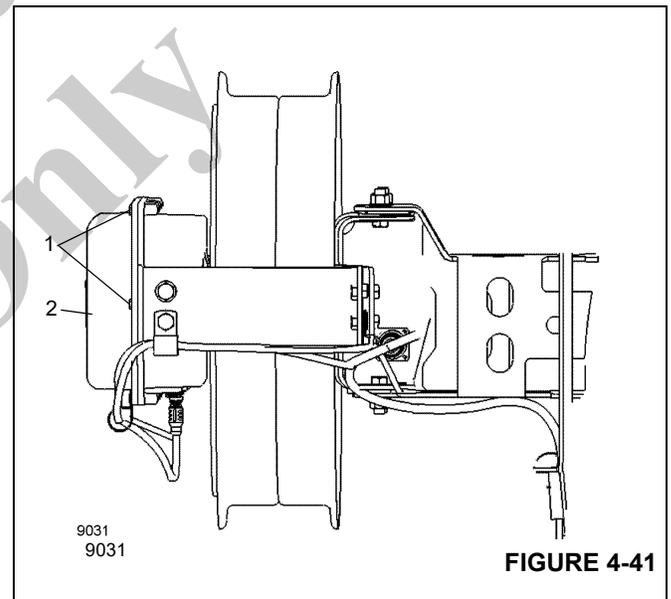

FIGURE 4-41
- Unscrew all screws (1), (Figure 4-41) and remove the casing (2), (Figure 4-41).